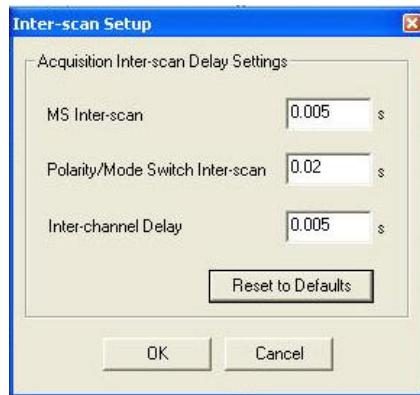

Figure 56 - Inter-scan Setup window
2. Click **Setup > Interscan Setup** to ensure that the acquisition speeds are at the default settings as displayed in Figure 56.